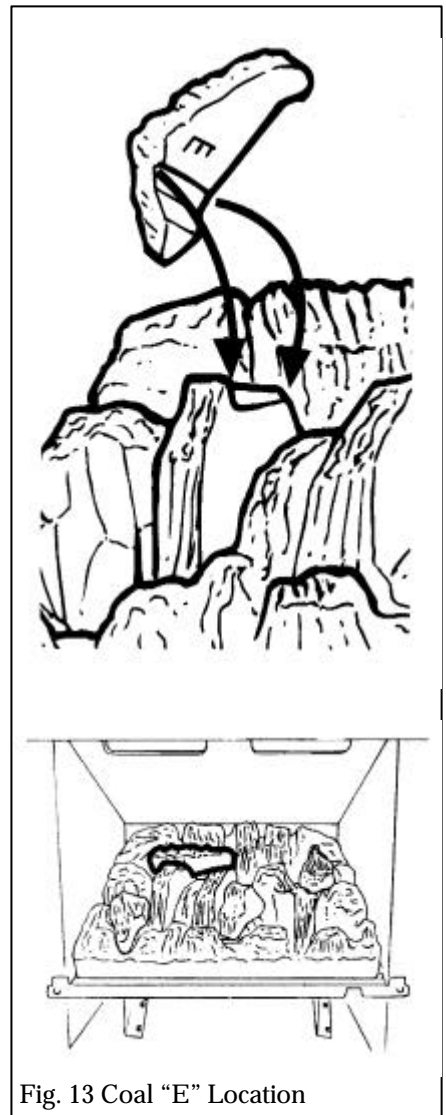

Fig. 13 Coal "E" Location
10.1.5 Position the rear left coal (embossed "E" on its underside) - see figure 13. The groove underneath coal "E" should locate over the narrow ridge (also embossed "E") situated towards the rear left of the coal bed. The left side of coal "E" should drop behind the high point at the front of the vertical ridge. The back edge of coal "E" should touch the front face of the back line of coals in the coal bed.